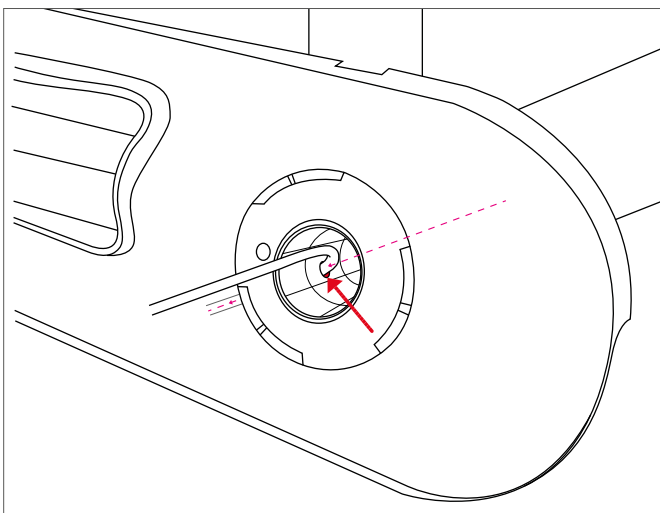

Figure 4.46 Routing the bottom bracket set cable through the sleeve
2. Route the bottom bracket cable through the opening the rear part of the bottom bracket shell (Fig. 4.46).